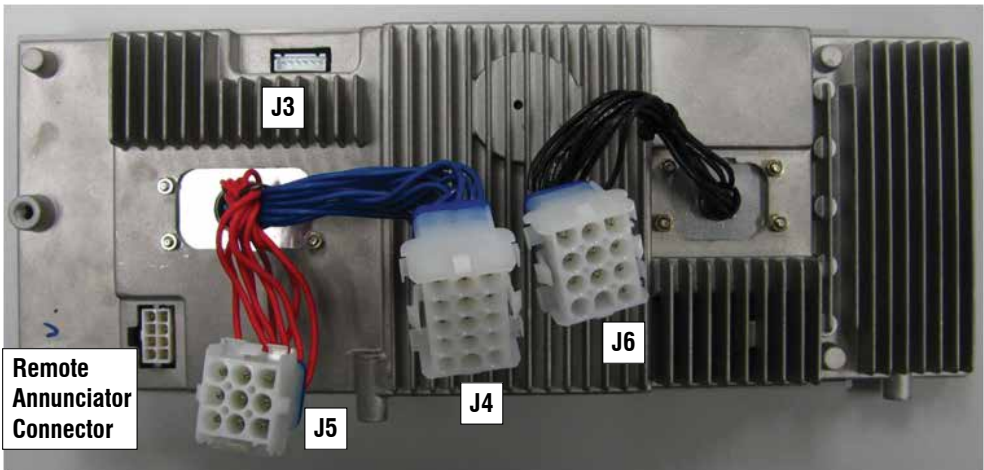

Figure 284. Nexus Air-cooled Panel Part Number 0H6680 (T)
Figure 284 - Nexus Air-cooled Panel part number 0H6680 (T) has 3 Amp/Tyco style connectors on the back (J4, J5 & J6) the actuator connector (J3), and a connector socket for the remote wireless annunciator (optional accessory).